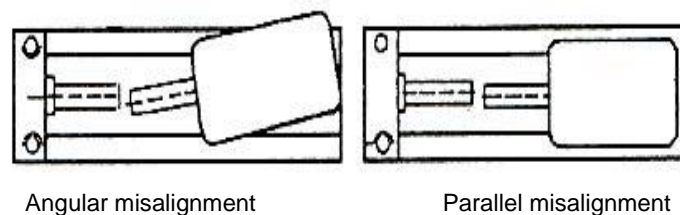

FIG 39.
- The error in the parallel and angular alignment (when viewed from above) can be corrected by moving the components sideways or swinging them as required. (Fig 39)